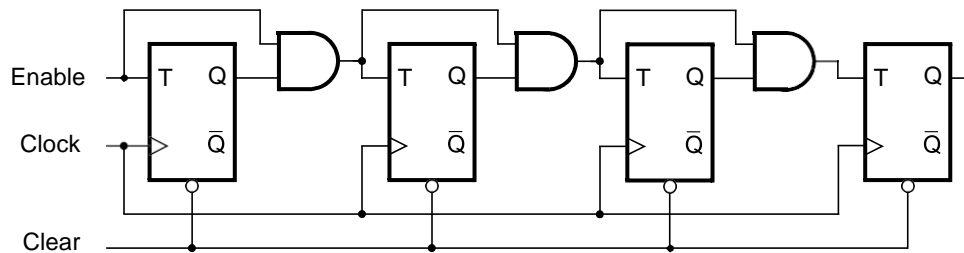

Figure 2: A 4-bit counter.
- 3.1. Write a VHDL file that defines an 8-bit counter by using the structure depicted in Figure 2. Your code should include a T flip-flop module that is instantiated 8 times to create the counter. Compile the circuit. Use the Quartus II RTL Viewer to see how Quartus II software synthesized your circuit.